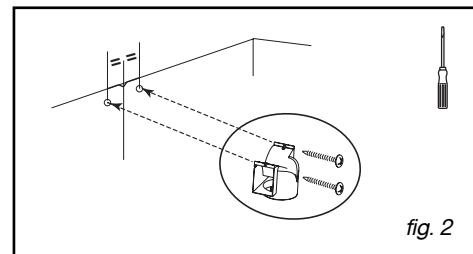

fig. 2
- Using the two screws (fig. 2), attach the plastic smoke deflector against the wall, flush with the ceiling for support. Be careful to centre the deflector in relation to the vertical line drawn on the wall (fig. 2).